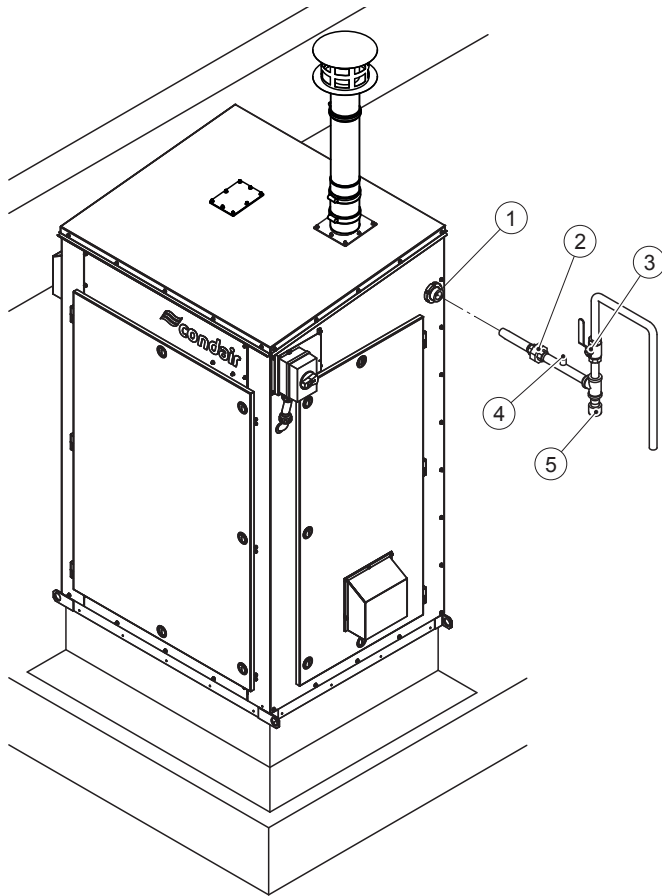

Fig. 15: Overview Gas installation
The gas supply installation must be carried out in accordance with Fig. 15 on page 44 and the applicable national and local codes for gas supply installations. In addition, the following requirements must be satisfied:
- A certified manual gas shut-off valve (see item 3 in Fig. 15 on page 44) must be installed immediately upstream from the humidifier. A thermally actuated gas shut-off device may also be installed upstream from the humidifier. Install such a device following all local codes and regulations.